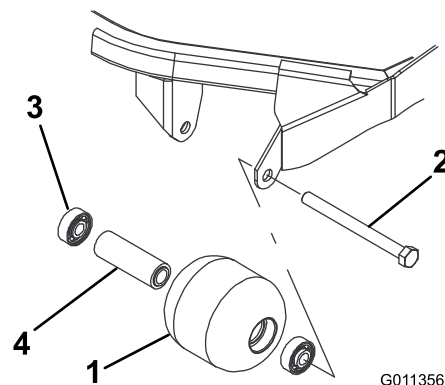

Figure 64
1. Remove the roller mounting bolt (Figure 64).
4. Inspect the roller housing, bearings, and bearing spacer for damage (Figure 64). Replace damaged components and assemble.
1. Press the first bearing into the roller housing (Figure 64). Press on the outer race only or equally on the inner and outer race.
2. Insert the spacer (Figure 64).
3. Press the second bearing into the roller housing (Figure 64) by pressing equally on the inner and outer race until the inner race comes in contact with the spacer.